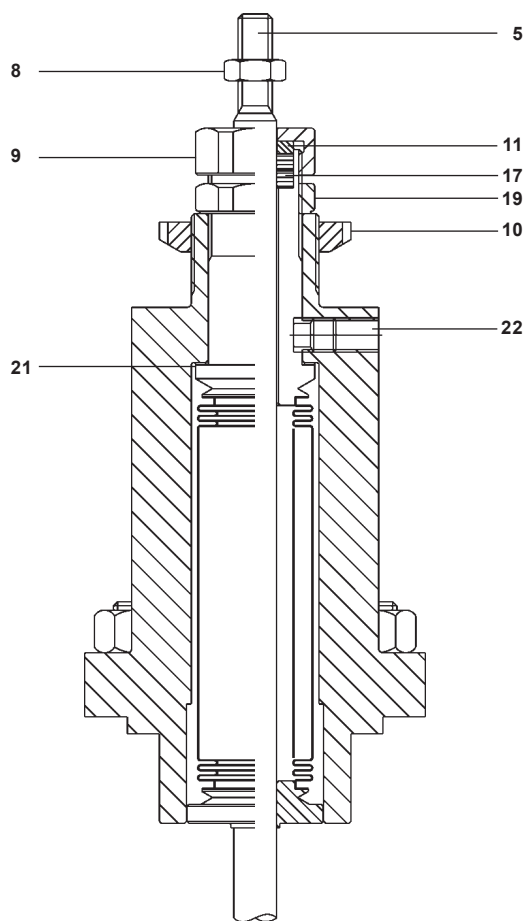

Fig. 10
4.3.1 Procedure for renewing bellows stem seals (Refer to Figure 10)